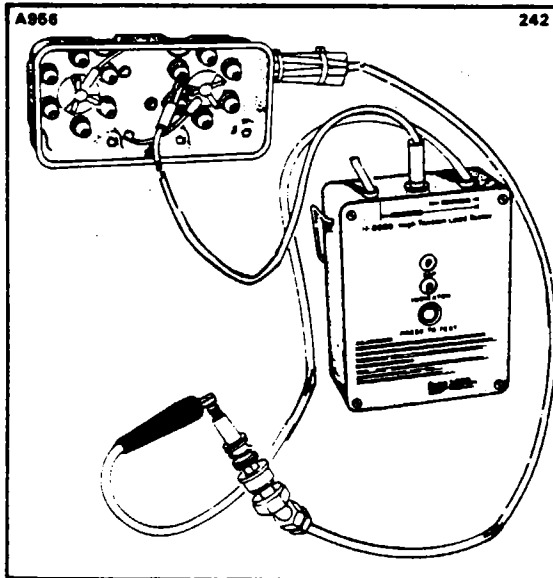

Figure 8-27. Checking Harness Lead Continuity
1. Connect black test lead to contact spring and red lead to eyelet of the same lead. (Refer to Figure 8-27.)